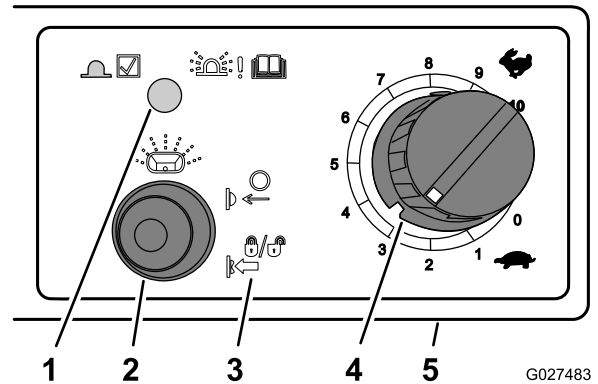

Figure 34
- Set the impeller-speed control to appropriate broadcast rate and then press the impeller On/Off switch to the On position (Figure 34).
- To lock the impeller speed control, press and hold the impeller On/Off switch for 5 seconds (Figure 34).